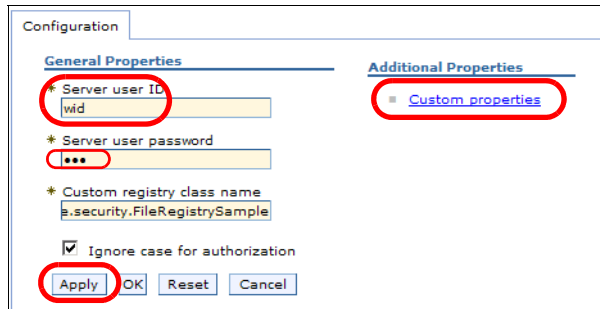

Figure 11-5 Custom registry definition
- Click *Apply* (Figure 11-5).